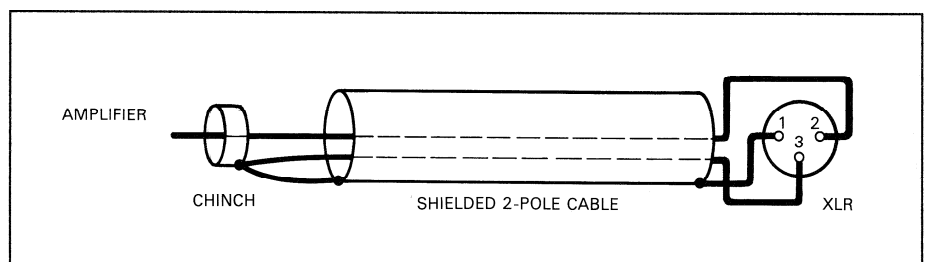

Fig. 2.3
Note: If unbalanced control of the A623 is desired (hi-fi), the box must be connected according to Fig. 2.3.
- Jumper nr. 7** Jumper for matching to the standard radio broadcast levels. Fig. 2.3 illustrates the jumper setting required for achieving a sound pressure of 103 dB SPL (1 m) at the specified input voltages (+6 dBu \cong 1.55 V). No jumpers corresponds to position a).